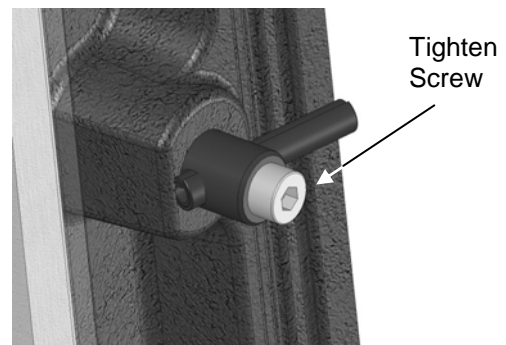

Fig. 7. Retaining Screw Tightness
**Please Note : There is no adjustment to the door lock / catch assembly. However, periodically check the tightness of the retaining screw to the end of the door handle shaft. (Fig. 7)**